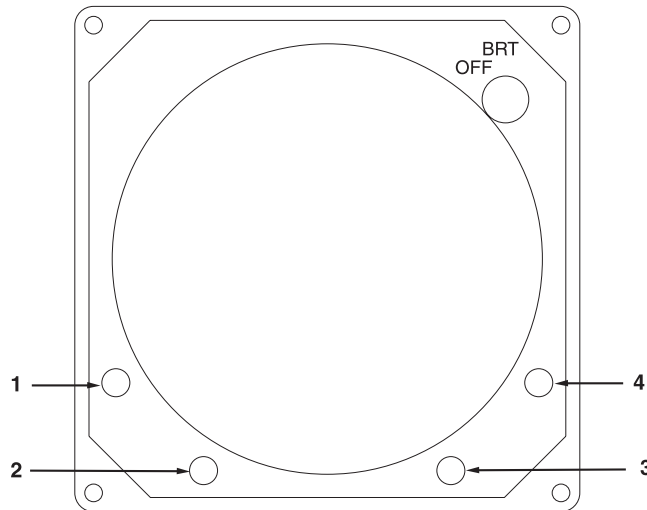
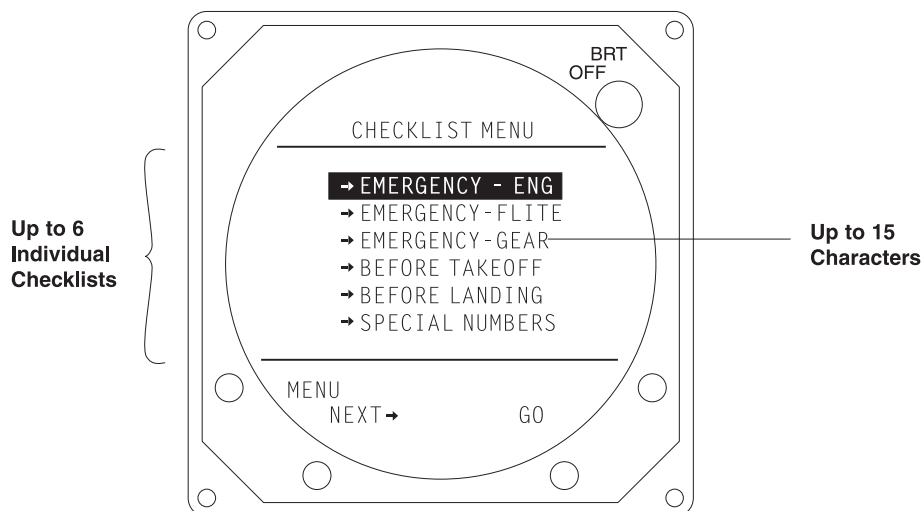

Figure 3-1. Controls
Figure 3-5. Typical Checklist Menu
All operating controls are located on the front of the indicator. Figure 3-1 shows the location of the controls.
6. Verify operation of the pushbuttons (figure 3-1 shows location of softkeys):
- a. Press softkey (2), i.e., NEXT. Verify that the highlight bar moves from Checklist to Time/Date.
- b. Press softkey (1), i.e., 360°. Verify that the system display screen changes to the 360° Weather Mode, 200 nm range.
- c. Press softkey (4), i.e., 120°. Verify that the display changes to the 120° Weather Mode, 200 nm range.
- d. Press softkey (3), i.e., 200 nm. Verify that the display range changes from 200 nm to 100 nm.
- e. Press softkey (1), i.e., MENU. Verify that the display returns to the Main Menu.
To verify that the checklist has been correctly programmed, select checklists from the Main Menu (figure 3-1). Compare the checklist items with those provided on the checklist worksheet. A typical checklist menu is shown in figure 3-5.